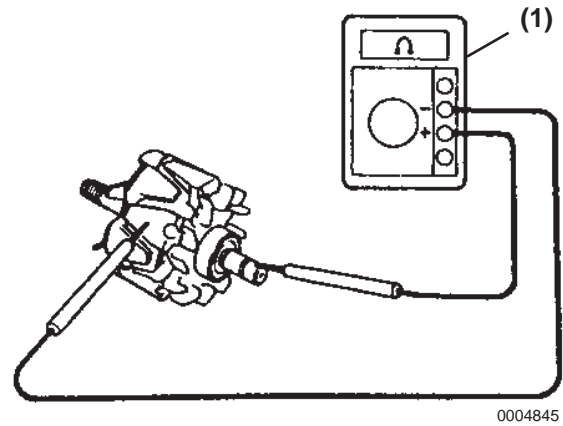

Figure 11-20
2. Using an ohmmeter (**Figure 11-20, (1)**) check the rotor circuit for grounds. The rotor circuit between the slip rings and rotor should have no electrical continuity. If continuity is measured, replace the rotor.